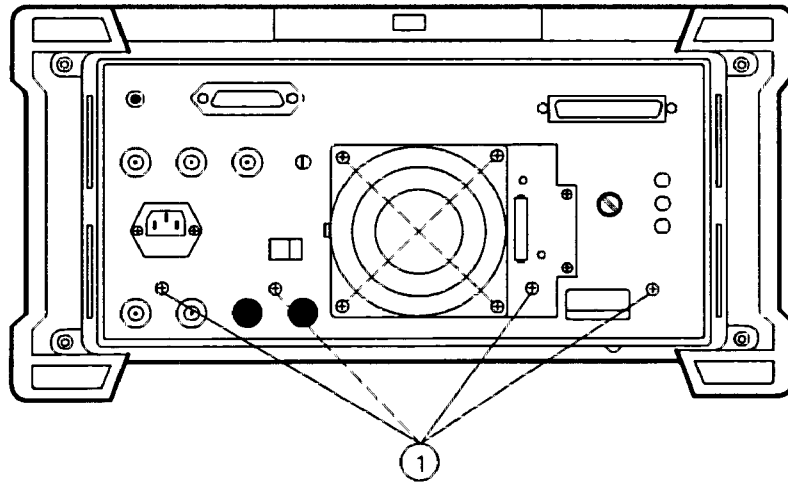

Figure 3-25. Main Deck Screws
13. Remove four screws (1) securing the rear frame to the main deck. See Figure 3-25.
6. Secure the rear frame to the analyzer's main deck, using four panhead screws (1). See Figure 3-25.